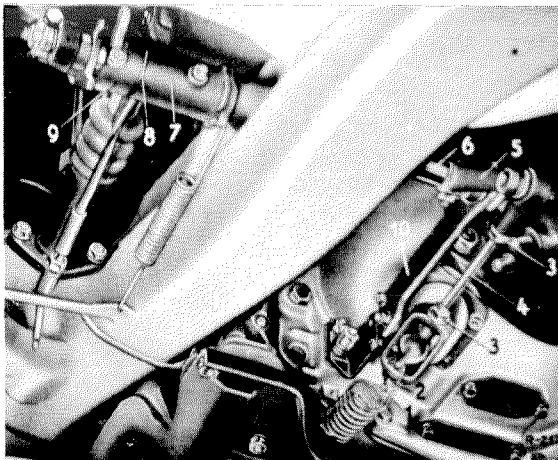

Fig. 01 — 1/6
16. Pass a suitable lifting cable around the left of the engine **in front of** the first bracket of the ignition lead conduit and tighten gently until it takes the weight (see Fig. 01 — 1/8).
17. Remove the self-locking nuts (7) of the rear engine mounting at the left and the right on the front axle support and remove the bolts (4) (see Fig. 01 — 1/7).